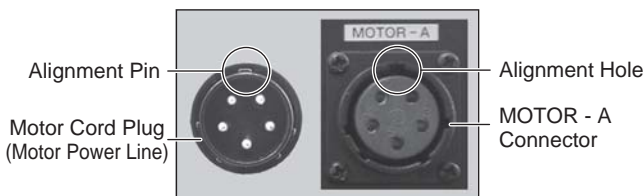
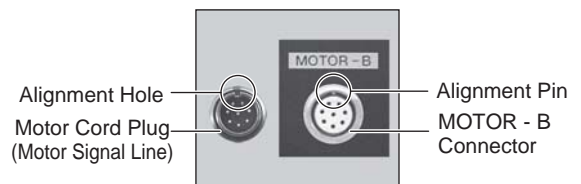

Fig. 16
Fig. 17
- (1) Ensure the Alignment Pin of the Motor Cord Plug (Power Line) is located upward (12 o'clock).
- (2) Carefully insert the Alignment Pin of Motor Cord Plug (Power Line) into the Alignment Hole (MOTOR - A Connector) of the rear of the CONTROLLER and push straight. Tighten the Fixing Ring of the Motor Cord Plug (Power Line). (Fig. 16, 18)
- (3) Ensure the Alignment Pin of the Motor Cord Plug (Signal line) is located upward (12 o'clock).
- (4) Carefully insert the Alignment Hole of Motor Cord Plug (Signal line) into the Alignment Pin (MOTOR - B Connector) of the rear of the CONTROLLER and push straight. Tighten the Fixing Ring of the Motor Cord Plug (Signal line). (Fig. 17, 18)